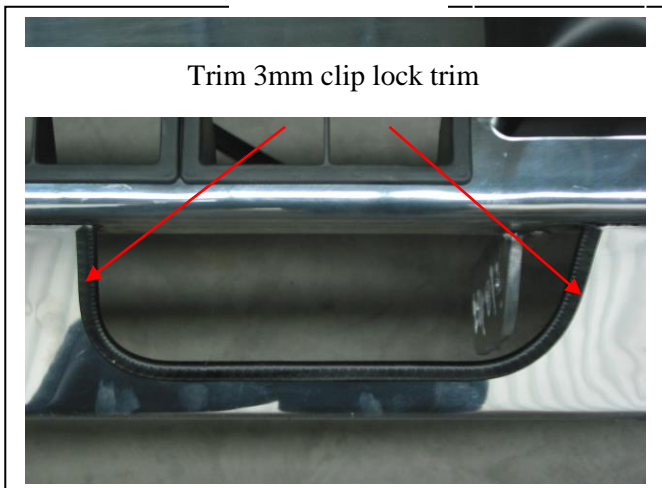

Figure 17 – Passenger side shown.
31. Fit 3mm clip lock trim (supplied) to lower air vents in protection bar. **See figure 17.**